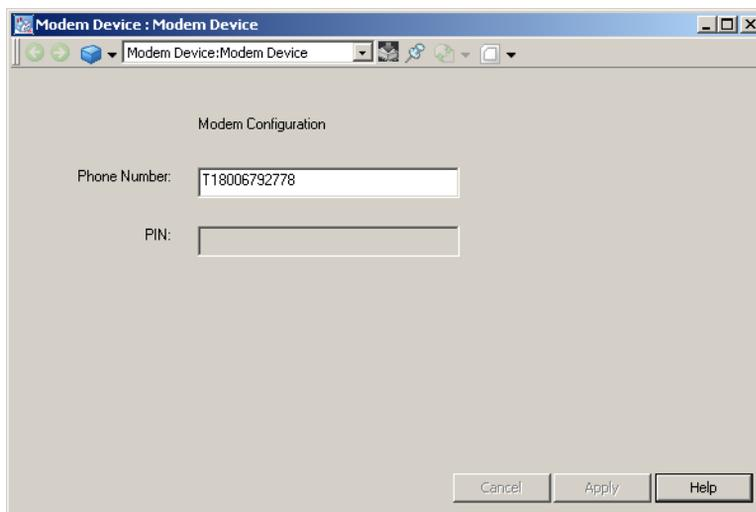

Figure 99. Modem Device
3. Right-click Modem Device, Aspect Category and select **Modem Device** from the context menu that appears. This opens the Modem Device shown in Figure 99.